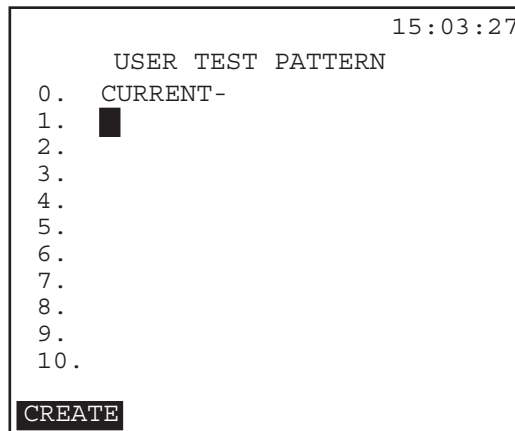

Figure 25 User Test Pattern Screen
- 1) Press USER (F1) in the TEST PATTERN screen (Figure 25).